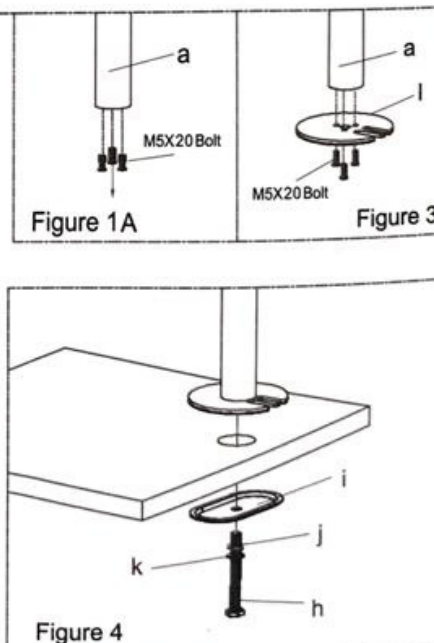

Figure 4
2. Position the Pole(a) on the mounting surface and secure using the Support Plate(i), M10 Washer(j), Spring Washer(k), and M10 Bolt(h). Fasten the M10 Bolt using the provided Wrench(p), see Figure 4.